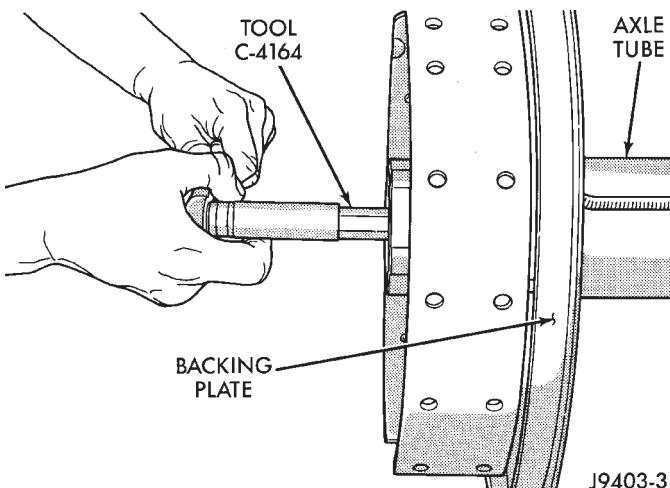

Fig. 18 Threaded Adjuster Tool
- (3) Remove bearing threaded adjuster lock from each bearing cap. Loosen the bolts, but do not remove the bearing caps.
- (4) Loosen the threaded adjusters with Wrench C-4164 (Fig. 18).